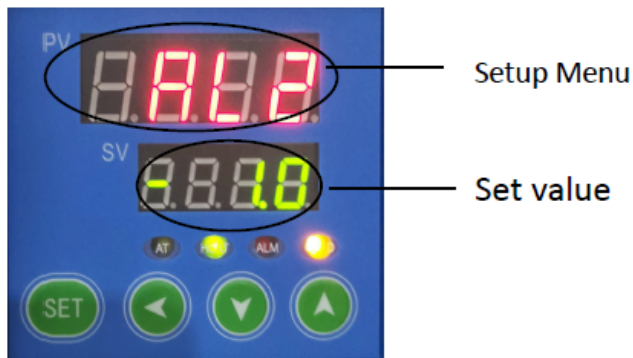

Figure 8
2. (See figure 8) When the temperature reaches:  $PV = SV + F_n$ , That is, from high speed to low speed operation, and the yellow light goes out at this time.